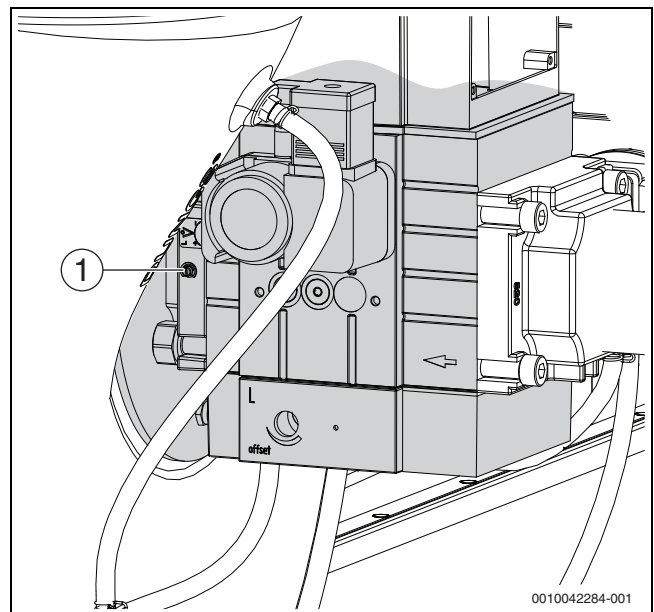

Fig. 36 Carry out an O2 adjustment at full load
- ▶ In the case of O2 values below 3.8% or above 4.5 % correct 5.2 % the setting on the high full load screw to (→ Fig. 36).